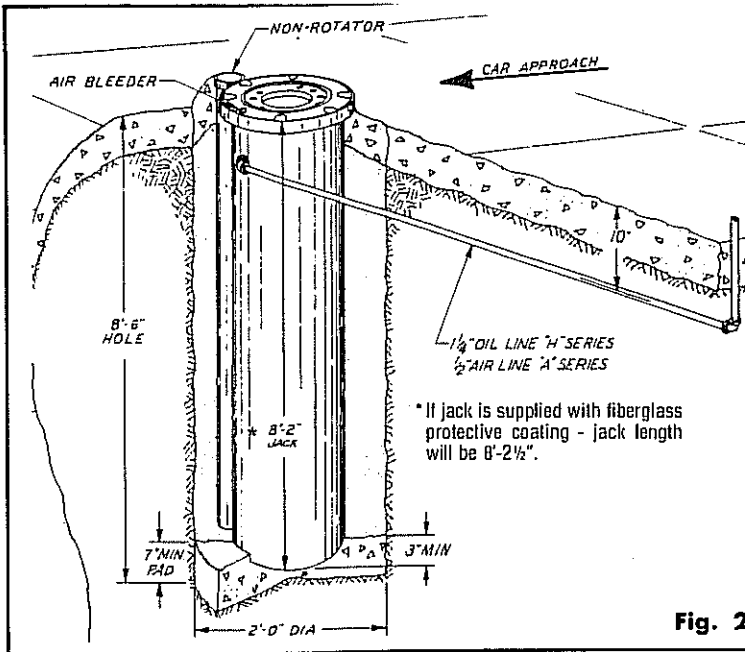
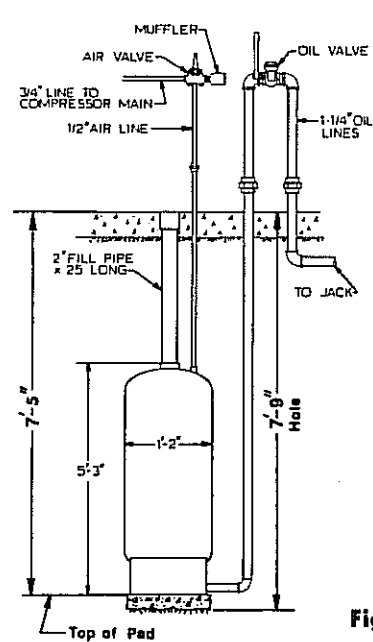

Fig. 2
Fig. 2A
3. Dig hole for jack 8'-6" deep and 2'-0" diameter as shown in Fig. 2. On Full Hydraulic model, "H" series, floor space may be saved if the tank is installed underground. Fig. 2A. The tank requires an excavation 7'-9" deep x 2'-0" diameter. Tank should be located directly under control valves. No tank required on Semi-Hydraulic "A" series.
5. Attach non-rotator to jack. See Figs. 2 and 6. Remove shipping band from top of jack. Bend down band lugs to accept hoist chain. **DO NOT** hoist jack with gland bolts or holes. Pour 4" of concrete in jack hole and lower jack before concrete sets. After jack is set plumb, pour concrete 3" deep around bottom of jack casing. Recheck plunger for plumb and elevation before concrete hardens.
IMPORTANT: Be sure top of jack protector ring is exactly even with top of finished floor grade. See Figs. 2 and 4. Be sure non-rotator outer pipe is installed exactly 90° to the side. See Fig. 1.
6. Underground Tank: Screw 2" x 25" pipe into tank top outlet. Cap with coupling and flush plug. Run 1/2" air supply into tank top. Make up 1 1/4" bottom outlet piping, Figs. 2A and 5. Tighten all plugs and connections. Pour 4" of concrete in hole for tank pad. Set tank on pad and position to bring pipes to desired valve location. Elevation of tank and 25' pipe length are critical. Top of fill coupling must be flush or slightly above floor. Secure tank in position, but do not backfill or cover pipe joints before testing.
8. Schedule 40 (Standard Weight) pipe and 150# malleable iron fittings are recommended. Clean pipe and fittings thoroughly. Use premium grade pipe compound. Use ground joint unions below valves, Figs. 2A and 7.
"H" Series: Complete oil valve piping per Figs. 2A and 5. Run 1 1/4" oil line to jack inlet. Complete 1/2" piping line from tank to valve port marked "Hoist".
11. Secure valve piping to building for stability. Install valves about 40" above floor. Refer to Figs. 2A, 5 and 7 for selected piping diagram and tank location.